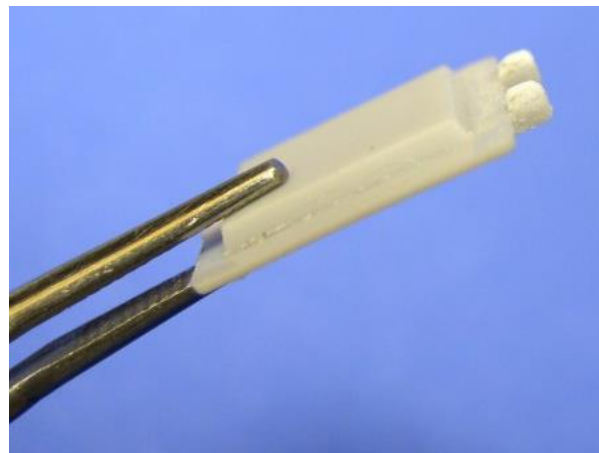

Figure OH4
5. File a slight radius on the bottom of the plastic pieces. See Figure OH4.